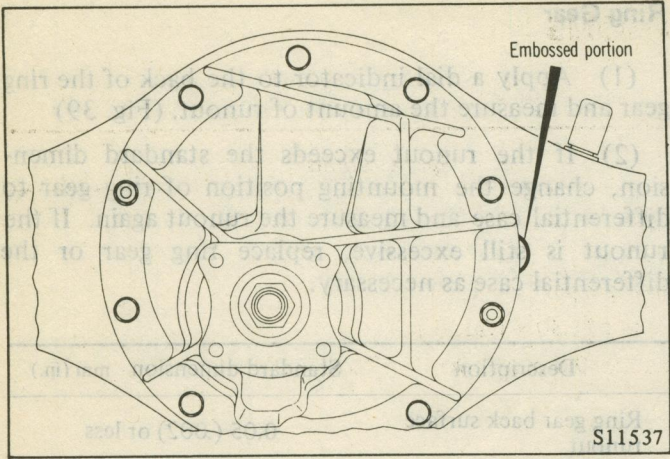

Fig. 40 Installing the Packing
(1) After applying gear oil to the bearing and gear sliding surfaces, apply a sealer to the axle housing and packing. Install packing, positioning the embossed portion as shown in Fig. 40. Then install the differential assembly to the rear axle housing. Tighten the fasteners to the specified torque.
(1) After applying gear oil to the bearing and gear sliding surfaces, apply a sealer to the axle housing and packing. Install packing positioning the embossed portion as shown in Fig. 40. Then install the differential assembly to the rear axle housing. Tighten the fasteners to the specified torque.